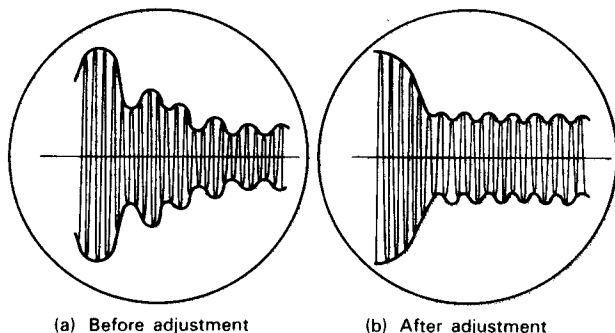

Fig. 27 Adjustment of noise blanker
- 2) Turn ON NB switch and connect the oscilloscope to the cathode side of D13 in IF unit. Adjust T1 in IF unit until the waveform changes from Figure A to Figure B (refer to **Fig. 27**).